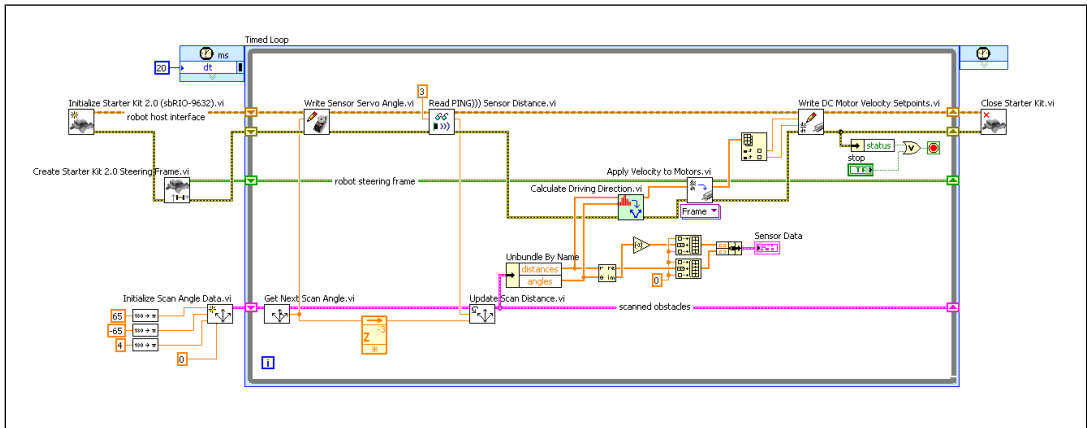

Figure 8. Block Diagram of the Starter Kit Roaming 2.0 VI
5. Select **Window»Show Block Diagram** to display the block diagram of the VI, as shown in Figure 8.